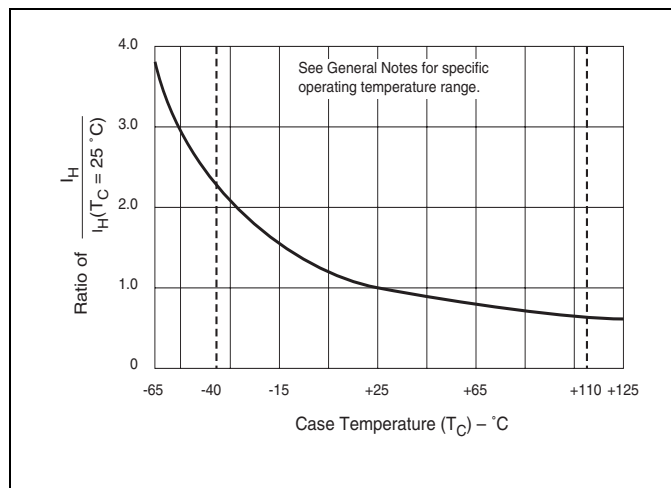

Figure E5.13 Normalized DC Holding Current versus Case Temperature
- See Figure E5.13 for I_H versus T_C or T_L .